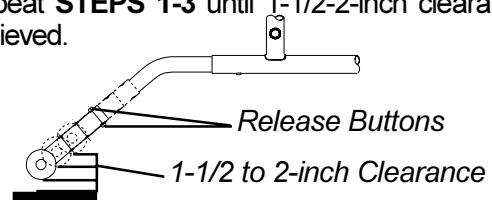

FIGURE 3 - ADJUSTING THE ANTI-TIPPERS
Adjusting The Anti-tippers (FIGURE 3)
2. Press the release buttons near the wheeled portion of the anti-tipper and slide it up or down to achieve the 1-1/2 to 2-inch clearance (FIGURE 3).